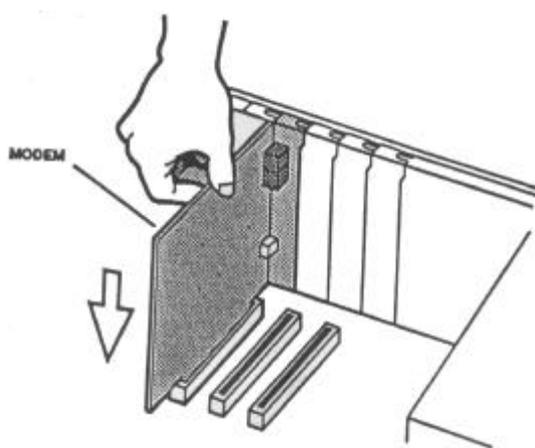

Figure 1-3. Inserting the modem
4. Hold the internal modem above the slot you selected, making sure the modem's edge connectors are pointing down toward the base of the personal computer (see Figure 1-3).
3. Take one end of the modular telephone cable supplied with the modem and plug it into the **LINE** modular telephone jack on the back of the modem (see Figure 1-3).